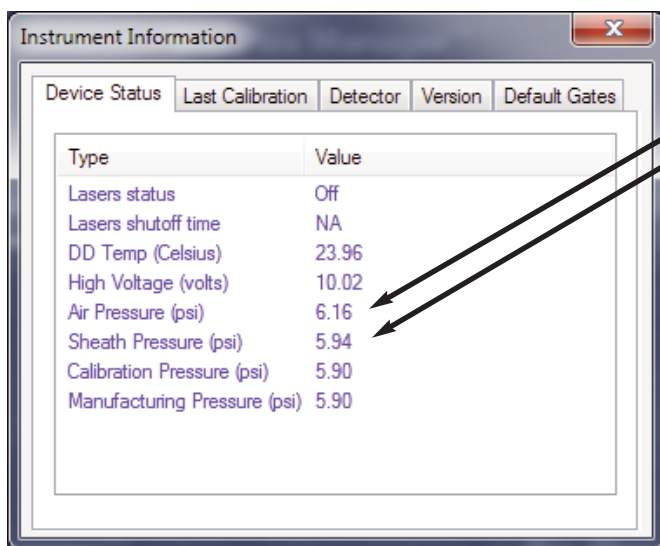

Fig. 19. Device status window.
5. Open the **Instrument Information** window and select the **Device Status** tab (Figure 19).
- After the pressure has stabilized, record the air and sheath pressure (Figure 19, arrows).